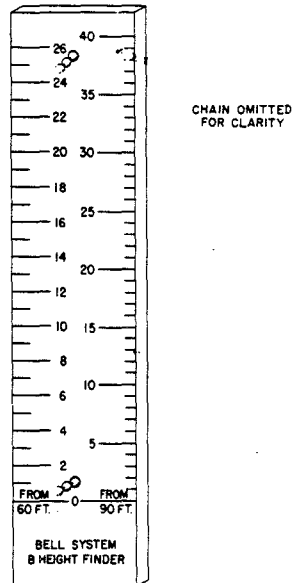

Fig. 6—B Height Finder
3.02 The B Height Finder consists of a white plastic strip 8-1/4 inches long, 1-3/4 inches wide, and 3/16-inch thick (Fig. 6). A dual scale is provided. On one edge the calibration is 0 to 26 feet in 1-foot increments; the opposite edge is calibrated 0 to 40 feet in 1-foot increments. The baselines (distance away) for the measurements are 60 and 90 feet, respectively. A metallic-bead chain is attached near each end of the scale to provide a viewing distance of 15 inches from the eye, and to assist the user in holding the height finder perpendicular to the baseline. An envelope-type leather case is provided for carrying the finder.